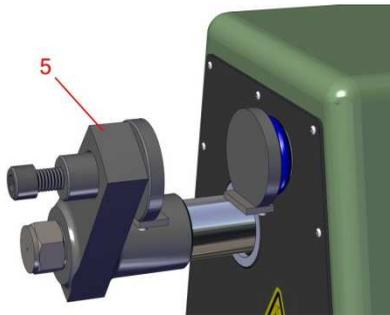

Figure 5.3.1
1. Install the adjustable clamp holder provided with the Splitting Strength Accessory onto the moveable clamp arm (Figure 5.3.1, Item 5) of the strength machine.
2. Align the pins located on the back side of the splitting strength clamps with the holes located on moveable clamp arm (Figure 5.3.1, Items 5) and stationary clamp holder (Figure 7.3, item 11). Gently slide the clamps onto the moveable clamp arm and stationary clamp holder.